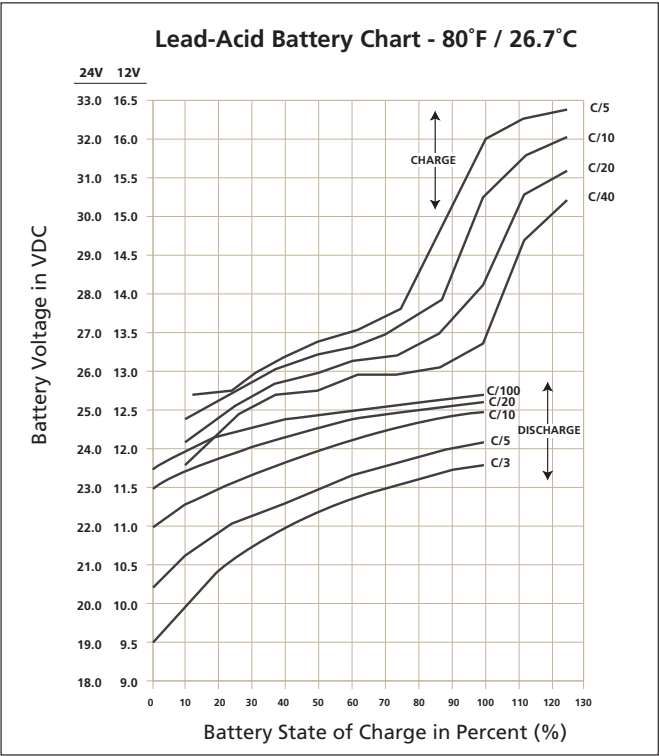

Fig. 7.1: Charging / Discharging Curves for 12V / 24V Lead Acid Battery
Fig. 7.1 shows the charging and discharging characteristics of a typical 12V / 24V Lead Acid battery at electrolyte temperature of 80°F / 26.7°C. The curves show the % State of Charge (X-axis) versus terminal voltage (Y-axis) during charging and discharging at different C-Rates. **Please note that X-axis shows % State of Charge. State of Discharge will be = 100% - % State of Charge.** These curves will be referred to in the subsequent explanations.
The discharge curves in Fig. 7.1 show the % State of Charge versus the terminal voltage of typical battery under different charge /discharge currents, i.e. "C-Rates" and fixed temperature of 80°F.
**NOTE:** The X-Axis of the curves shown in Fig 7.1 indicates the percentage State of Charge. % State of Discharge should be converted to % State of Charge using the formula given below:
As stated earlier, the buzzer alarm is triggered when the voltage at the DC input terminals of the inverter has dropped to around 10.5V for a 12V battery (21V for 24V battery) at C-Rate discharge current of C/5 Amps. Please note that the terminal voltage relative to a particular of State Discharge decreases with the rise in the value of the discharge current. For example, terminal voltages for a State of Discharge of 80% (State of Charge of 20%) for various discharge currents will be as given at Table 7.5 (Refer to Fig 7.1 for parameters and values shown in Table 7.5):
Inverters are normally provided with a protection to shut down the output of the inverter if the DC voltage at the input terminals of the inverter drops below a threshold of around 10V for a 12V battery (20V for 24V battery). Referring to the Discharge Curves given in Fig 7.1, the State of Discharge for various C-Rate discharge currents for battery voltage of 10V / 20V is as follows: (Please note that the X-Axis of the curves shows the % of State of Charge. The % State of Discharge has to be converted to the % State of Charge using the formula: % State of Charge = 100% - % State of Discharge):